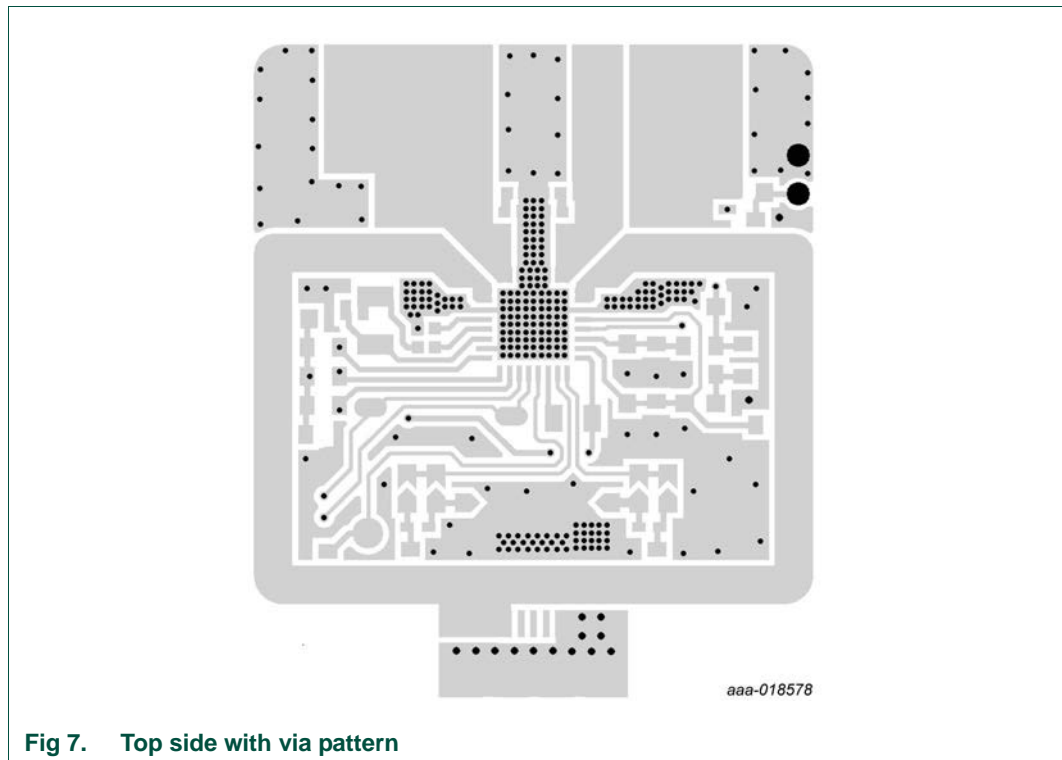

Fig 7. Top side with via pattern
- Shielding (non-current conducting) GND planes in the top copper layer are stitched to the non-current conducting GND areas of the bottom layer GND plane. The stitching is done with vias on the edges of the planes. The stitching can easily be recognized in Figure 7.
- Underneath the IC, NXQ1TXH5/101 a pattern of copper-filled thermal vias (see Figure 7) conducts heat from the top side to the bottom side of the PCB. The vias are resin-filled and copper capped for best thermal performance. Additional details about the NXQ1TXH5/101 footprint and thermal vias can be found in the application note (Ref. 2).